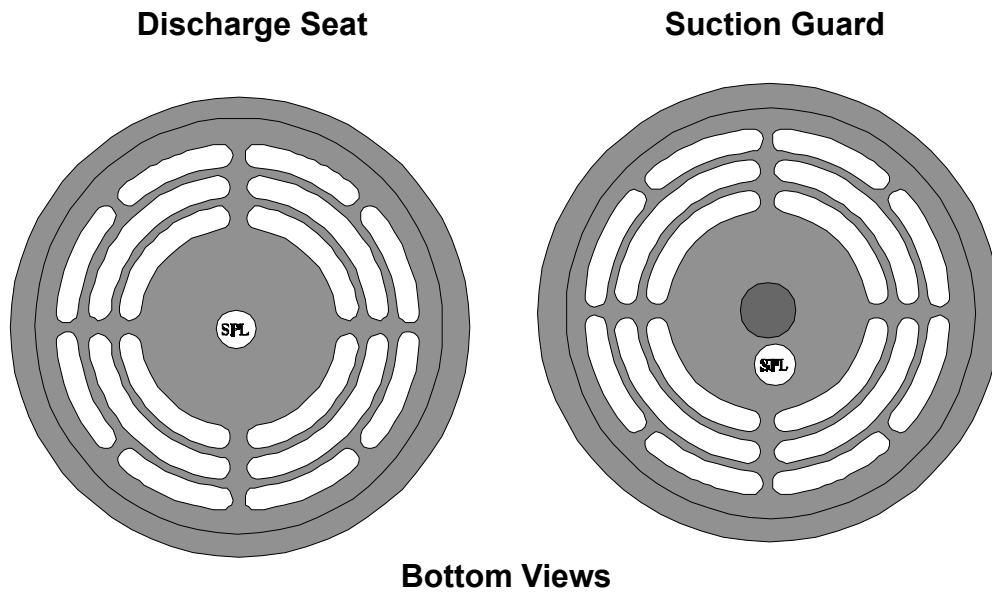

FIGURE 1-12: SPIRALOCK THREADED VALVE ASSEMBLY - MARKED “SPL”
- b. 12 Point Cap Screws in Valve Assemblies with Spirallock Threads and marked SPL (see Figure 1-12:) are lubricated, both threads and seating surfaces, with a petroleum type lubricant only.